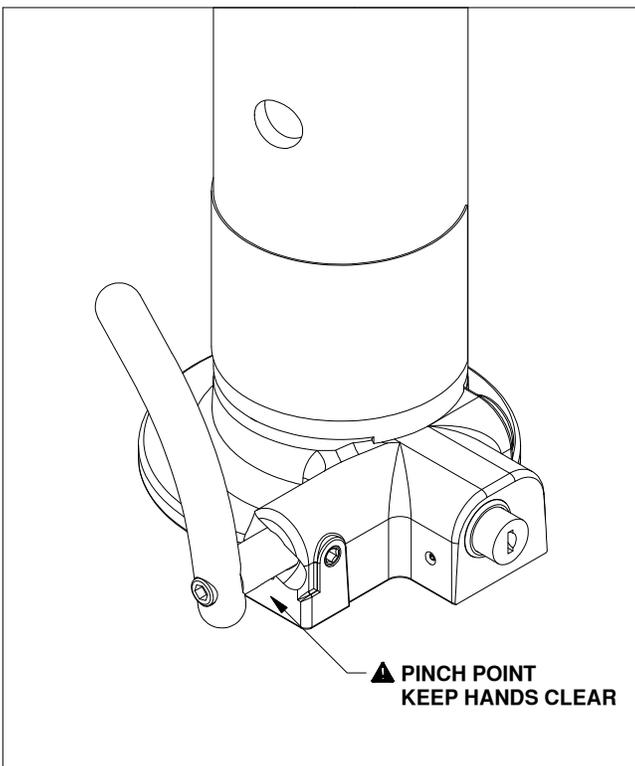
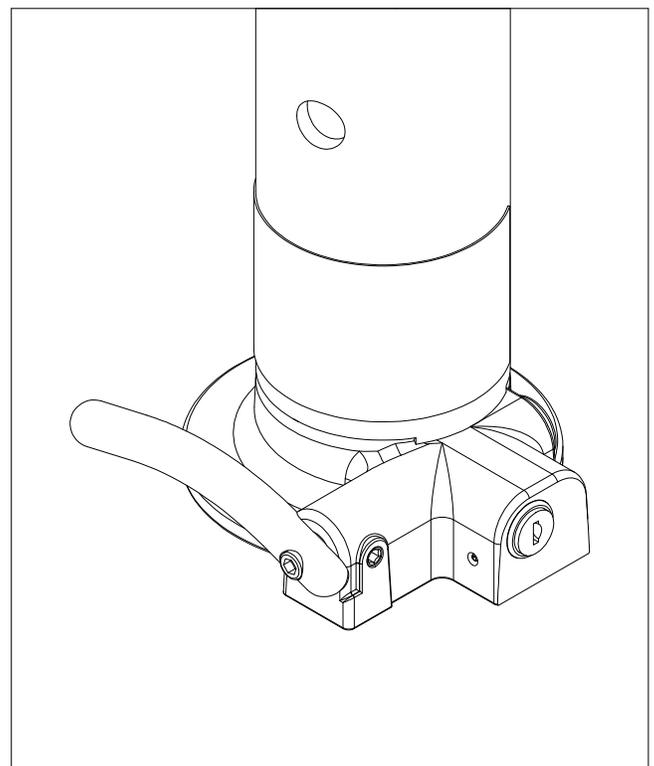

Figure B1, Coupler open position.
Figure B2, Coupler closed & locked position.
1. **Unlock coupler.** The coupler is locked when the face of the lock assembly is even with body of the coupler, see figure B2. To unlock, insert key and rotate 1/4 turn. When disengaged, the lock assembly will "pop" out so that the face of the lock assembly sticks out from the body of the coupler by about 1/2", see figure B1.
2. **Set coupler position.** Set the coupler to the "open" position. To do this, pull the handle straight out from the coupler about 1", rotate the handle clockwise until it stops, then release. The handle should stay in this near vertical position with about 1" between it and the coupler. See figure B1.
4. **Lower the trailer.** Slowly lower the trailer onto the ball. When the ball is fully engaged in the coupler, the handle will automatically rotate counter clockwise and retract firmly against the coupler housing. This is referred to as the "closed" position. See figure B2.
2. **Set the coupler position.** Set the coupler to the "open" position. To do this, pull the handle straight out from the coupler about 1", rotate the handle clockwise until it stops, then release. The handle should stay in this near vertical position, with about 1" between it and the coupler. See figure B1.